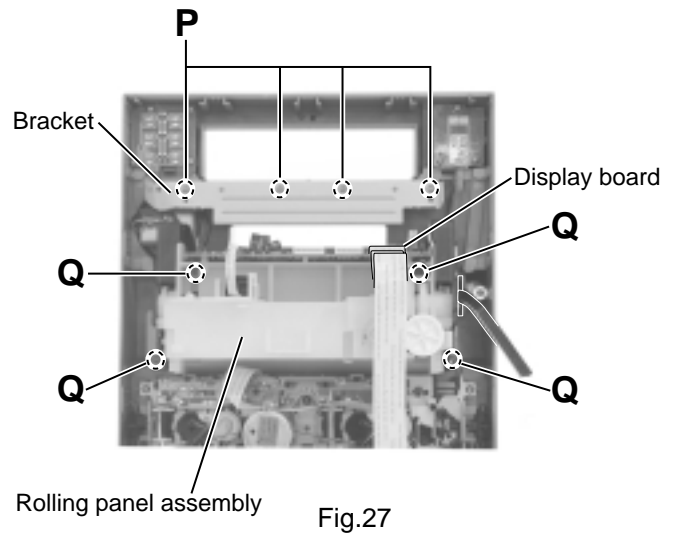

Fig.27
**ATTENTION:** When reconnecting the card wire, put it pass through under the harness **h** on the DC motor (The Fig.27 shows the details).
(See Fig.27 to 29)**